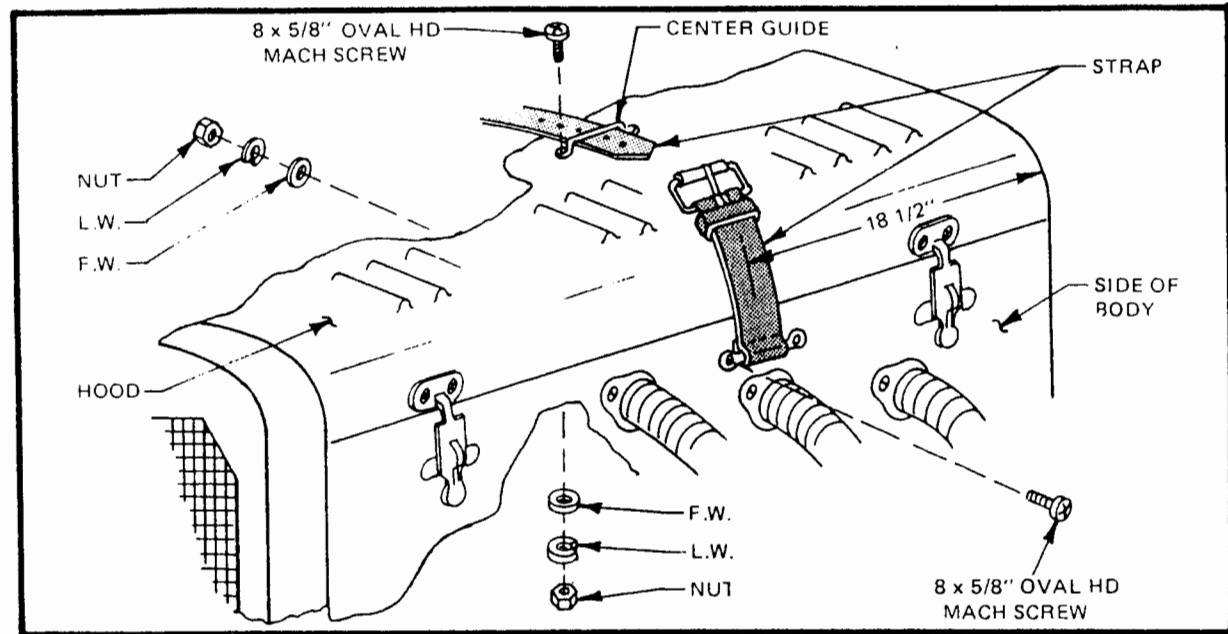

Figure 27
- REAR VIEW:** The stock Chevette rear view mirror is ideal for use on the assembly. Obtain a new mounting tab from a local GM parts dept. Mount the metal tab to the windshield using a special two-part adhesive available at auto supply stores. Follow the manufacturer's instructions for use of the adhesive. The center of the metal mounting tab (Fig. 27) is located 3" down from the top center of windshield frame.